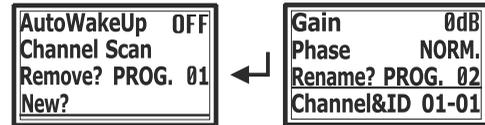

Fig. 23
(P) Add a new program name, Fig. 23: